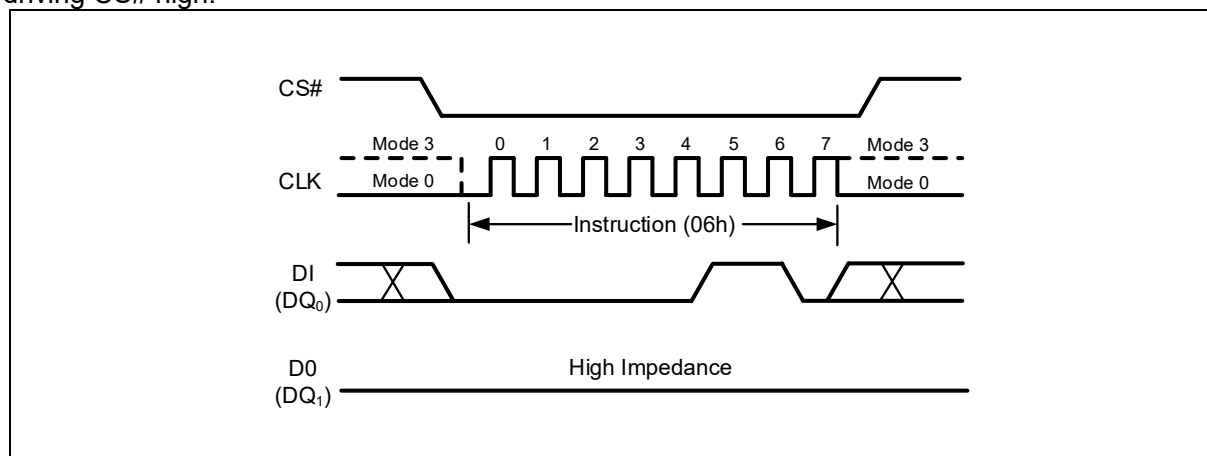

Figure 6 Write Enable Instruction for SPI Mode
Instructions vary in length from a single byte to several bytes and may be followed by address bytes, data bytes, dummy bytes (don't care), and in some cases, a combination. Instructions are completed with the rising edge of edge CS#. Clock relative timing diagrams for each instruction are included in Figure 6 through Figure 39. All read instructions can be completed after any clocked bit. However, all instructions that Write, Program or Erase must complete on a byte boundary (CS# driven high after a full 8-bits have been clocked) otherwise the instruction will be ignored. This feature further protects the device from inadvertent writes. Additionally, while the memory is being programmed or erased, or when the Status Register is being written, all instructions except for Read Status Register will be ignored until the program or erase
The Write Enable (WREN) instruction (Figure 6) sets the Write Enable Latch (WEL) bit in the Status Register to 1. The WEL bit must be set prior to every Page Program, Quad Page Program, Sector Erase, Block Erase, Chip Erase, Write Status Register and Erase/Program Security Sectors instruction. The Write Enable (WREN) instruction is entered by driving CS# low, shifting the instruction code “06h” into the Data Input (DI) pin on the rising edge of CLK, and then driving CS# high.